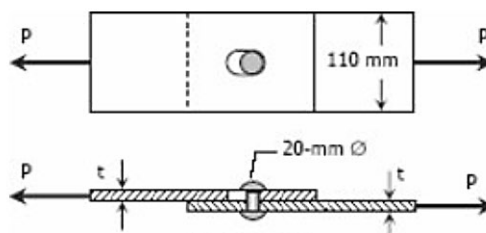

Figure 4/ Rajah 4
- (4). (a). In Figure 4 below, assume that a 20-mm-diameter rivet joins the plates that are each 110 mm wide. The allowable stresses are 120 MPa for bearing in the plate material and 60 MPa for shearing of rivet. Determine